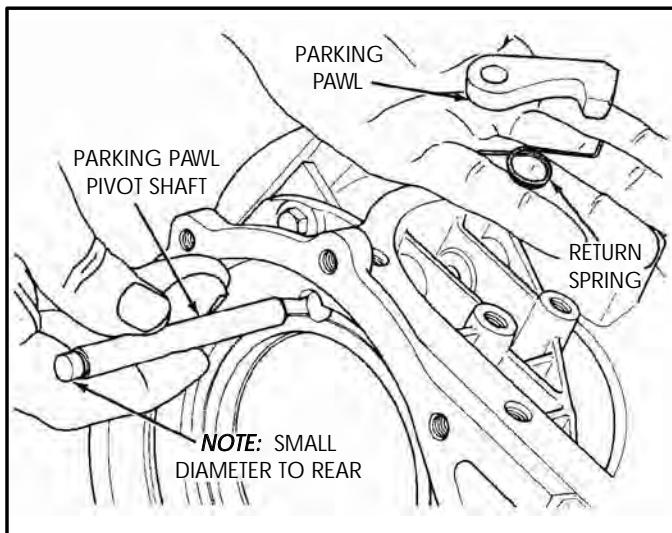

Figure 131
15. Remove park pawl pivot shaft, park pawl and return spring, as shown in Figure 131.